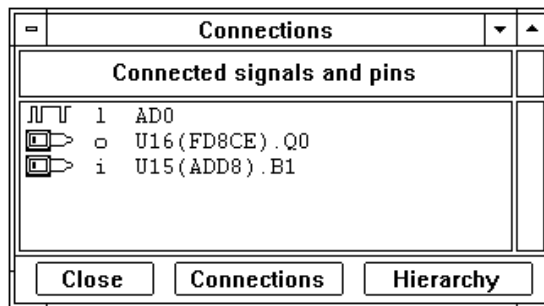

Figure 3-18. Connections to the U15.B1 pin
9. Similarly, you can verify that the two lower bits (U15.B1 and U15.B0) are properly connected. Figure 3-18 shows the connectivity for U15.B1.